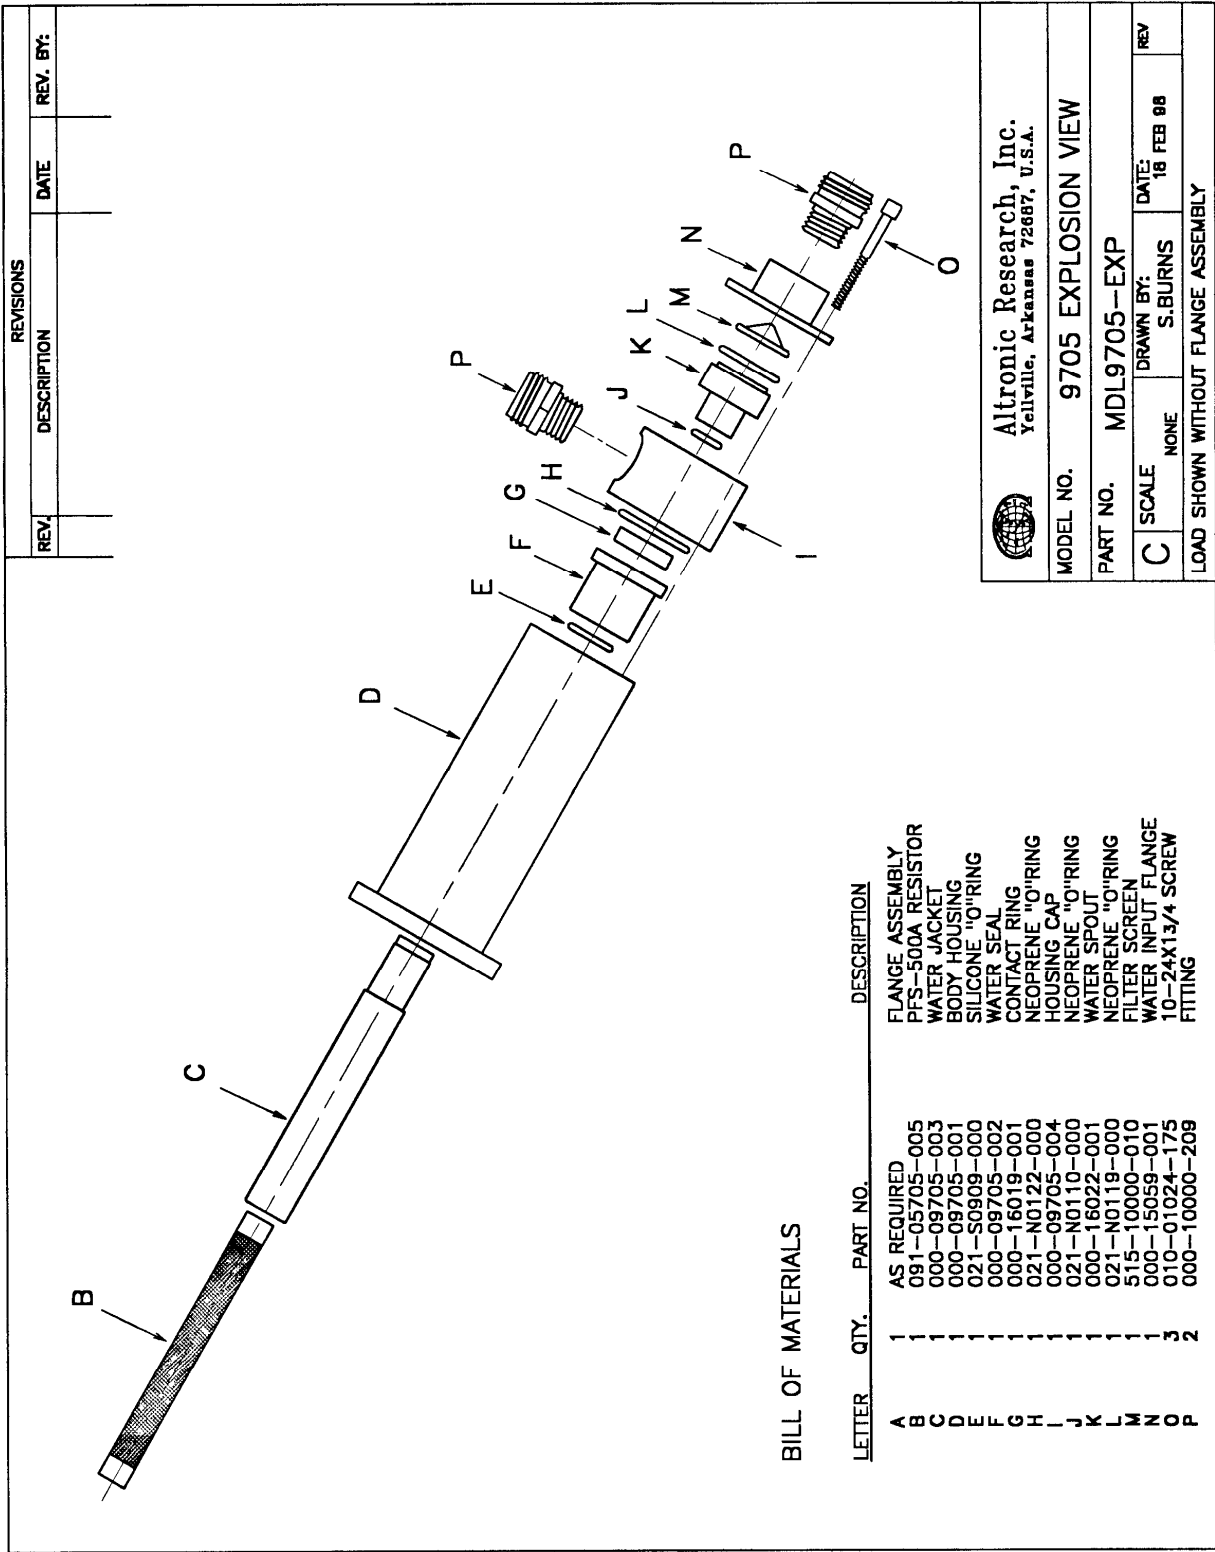
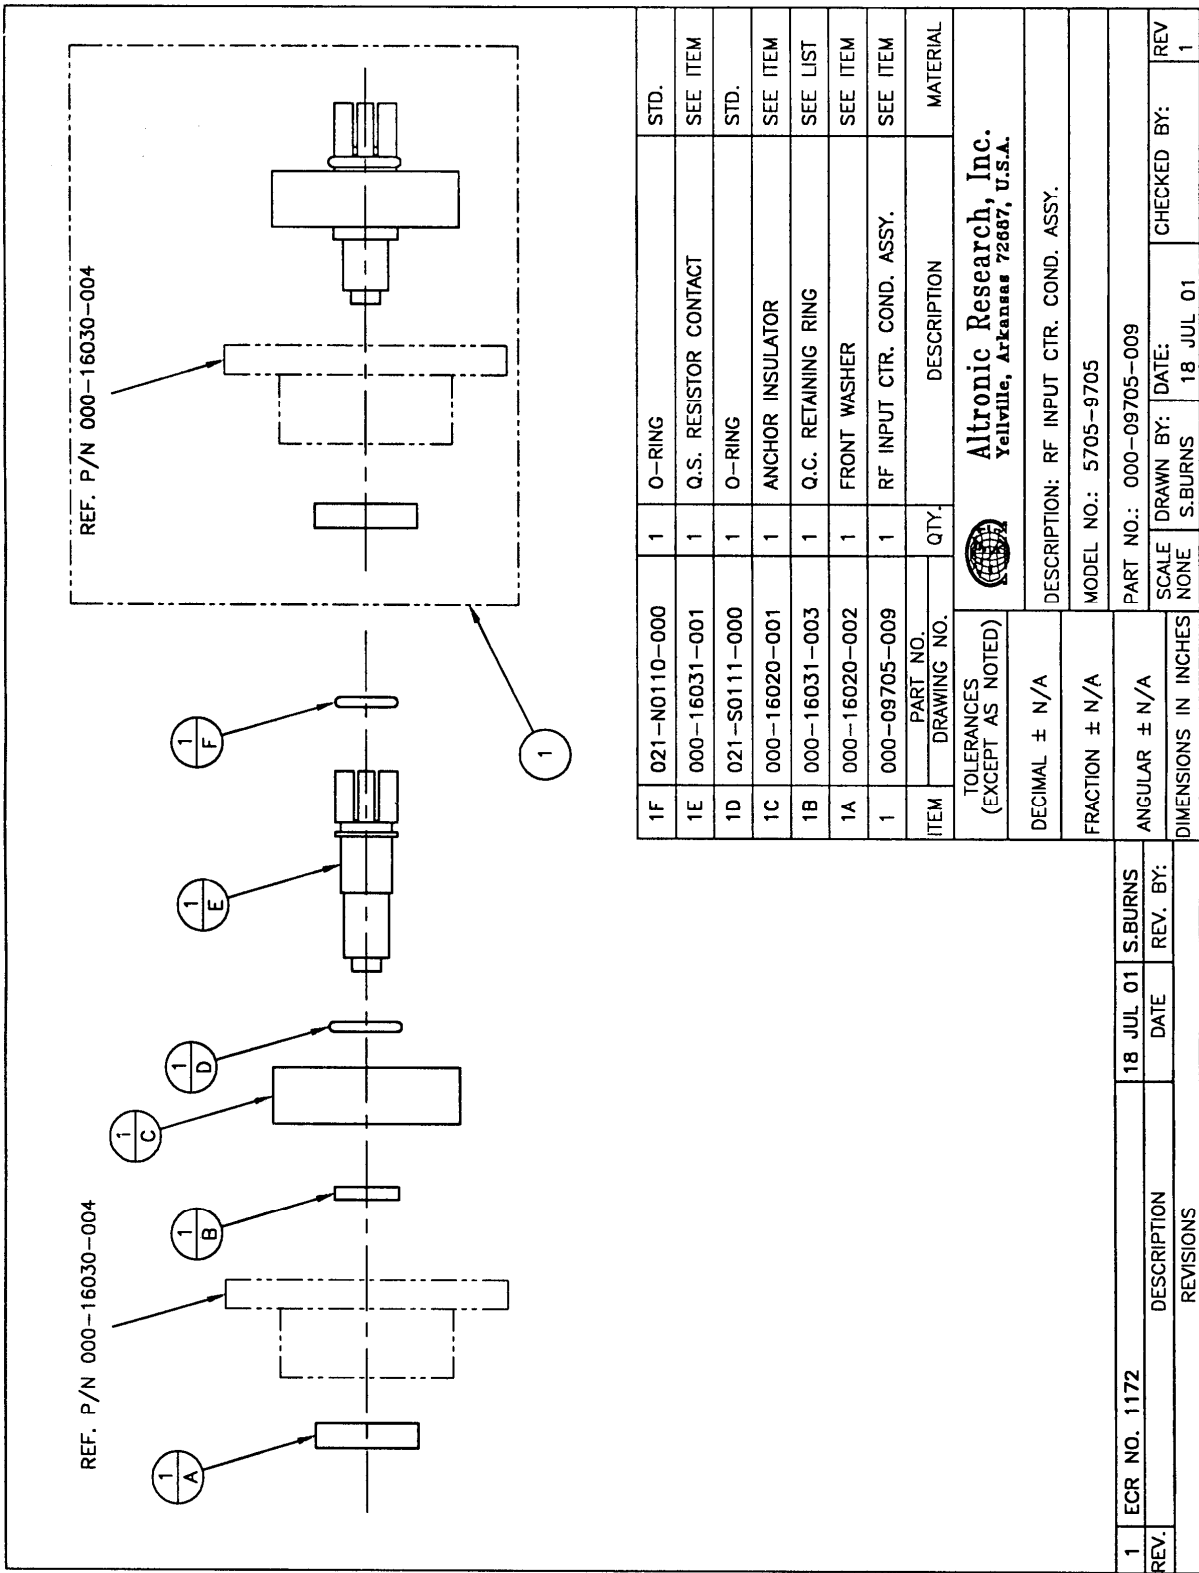

Fig. 14
Fig. 16
4. **Resistor Replacement** - (Refer to Fig. 14) To replace the resistor element, remove the three 10-24x1-3/4" cap screws (item O). Remove water input assembly (items M, N, and P). Inspect filter screen for damage, replace if eroded or torn. Remove housing cap assembly (items G, H, I, P, J, K and L). Inspect all O-rings for distortion or damage. Replace if pinched, cut, burned or no longer round in cross section. Inspect ring contact (item G) for signs of arcing or loss of silver in the area of contact with the resistor contact band. Replace if damage is noted. If resistor (item B) is not broken, grasp by the end extending from the water seal (item F) and pull it straight out of the load. (If
- 5. Removal of RF Input** - (Refer to Figure 15) To remove the RF line connector (item 2), remove four 8-32 x 1/2 T-15 torx head screws (item 1). To remove the RF input line adaptor flange (item 4), remove four 10-24 x 3/8" socket head screws (item 3) that secure the line adaptor flange (item 4) to the load body housing (item D, Fig. 14). The RF input assembly consisting of the center conductor, anchor insulator and front resistor contact (item 5) will normally remain in the load body. Lift front washer off the end of Q.S. resistor contact. Grasp the Q.S. resistor contact by hand and attempt to pull the input assembly out of the load body using slight side to side motion while pulling. If strong resistance is encountered, it may be necessary to chill the load to allow the anchor insulator to shrink away from the load housing. This can be done by placing the load in a freezer, or packing the load in ice for 20 to 30 minutes. Once the anchor insulator has shrunk away from the load housing, the RF input assembly should be easily removed. At this point of disassembly, all components of the load can be inspected or replaced as needed. Reassembly should be done in the reverse order of sequence. See Fig. 16 for individual component identification of item 5.